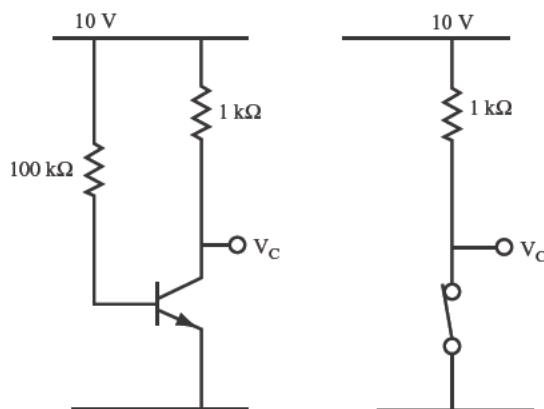

FIGURE 3.24
- 24** Look at the two circuits shown in Figure 3.24 and compare their voltages at the point labeled V_C .